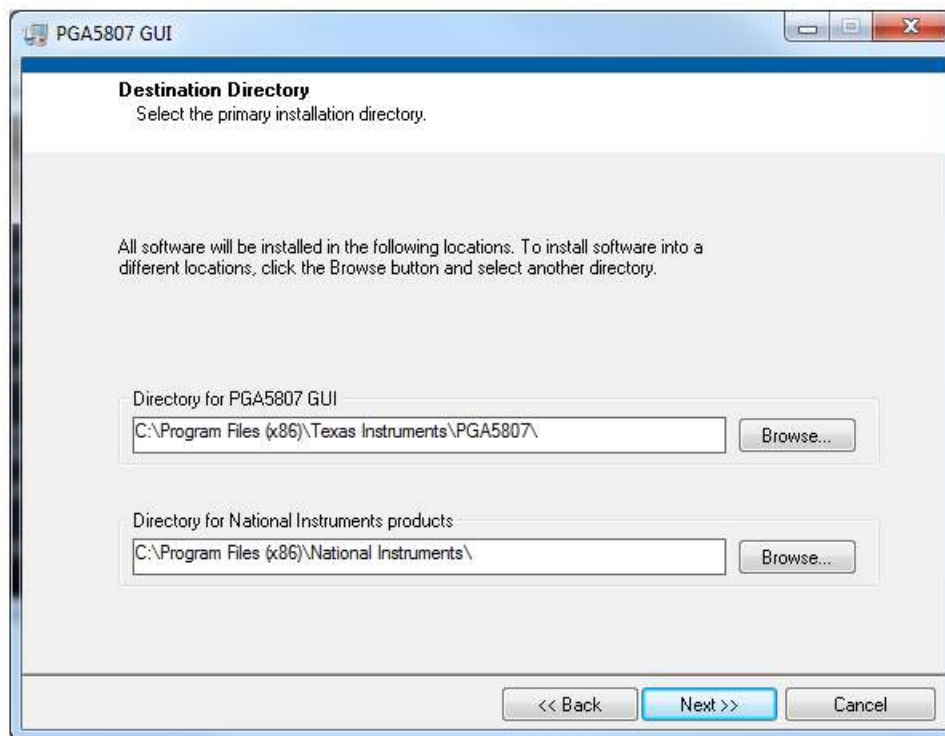

Figure 12. PGA5807 GUI Install (b)
- Set the destination directories for the PGA5807 GUI installation or leave as default and press the *Next* button as shown in Figure 12.